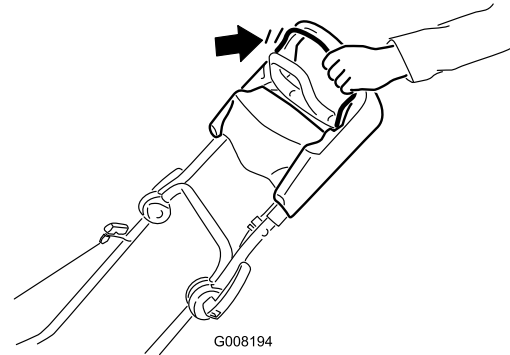

Figure 14
1. Hold the blade control bar against the handle (Figure 14).